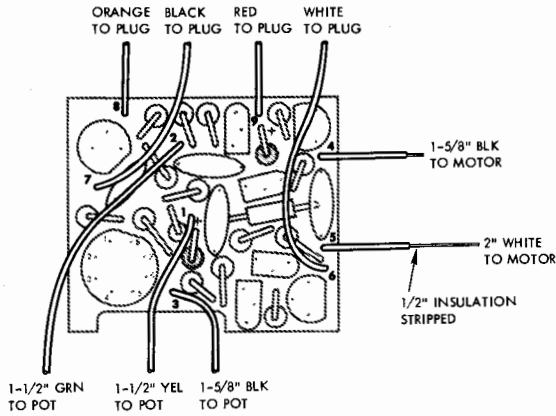

Figure 5. Servo Board Wire Connections
- 38. Insert yellow wire from Group "A" through hole No. 1 in board, and solder in place. (See figure 5.)
- 54. Insert white wire from cable through hole no. 6 in top of P.C. board (figure 5). Solder in place. Clip off excess wire.